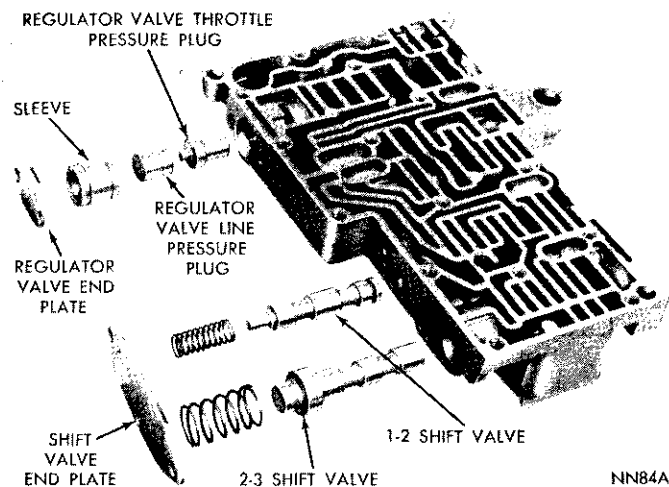

Fig. 46—Valve Body—Shift Valve Side—Disassembled
(15) Remove shift valve end plate (Fig. 46) and slide out the two springs and valves.
(16) Remove regulator valve end plate. Slide regulator valve line pressure plug, sleeve, and regulator valve throttle pressure plug out of valve body.
(4) Install 1-2 and 2-3 shift valves and springs (Fig. 46). Install shift valve end plate and tighten the three retaining screws to 28 inch-pounds.
(5) Install regulator valve throttle pressure plug, sleeve, and the line pressure plug (Fig. 46). Install regulator valve end plate and tighten the two retaining screws to 28 inch-pounds.